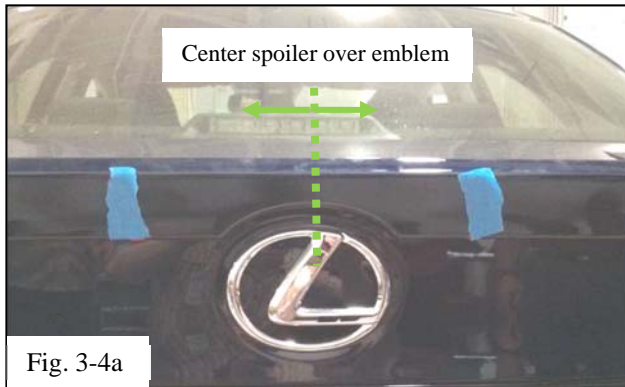

Fig. 3-3
- (d) Remove the tape liner on the two large pieces of tape on at the outboard tips of the spoiler (Fig 3-3).